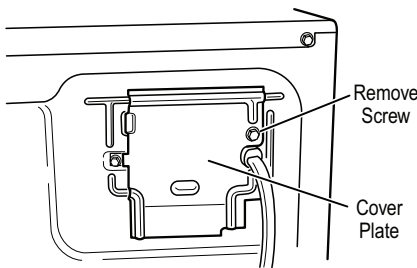

Figure 3. Remove the cover plate.
2. Remove the cover plate from the top right corner of the back of the dryer. See Figure 3.